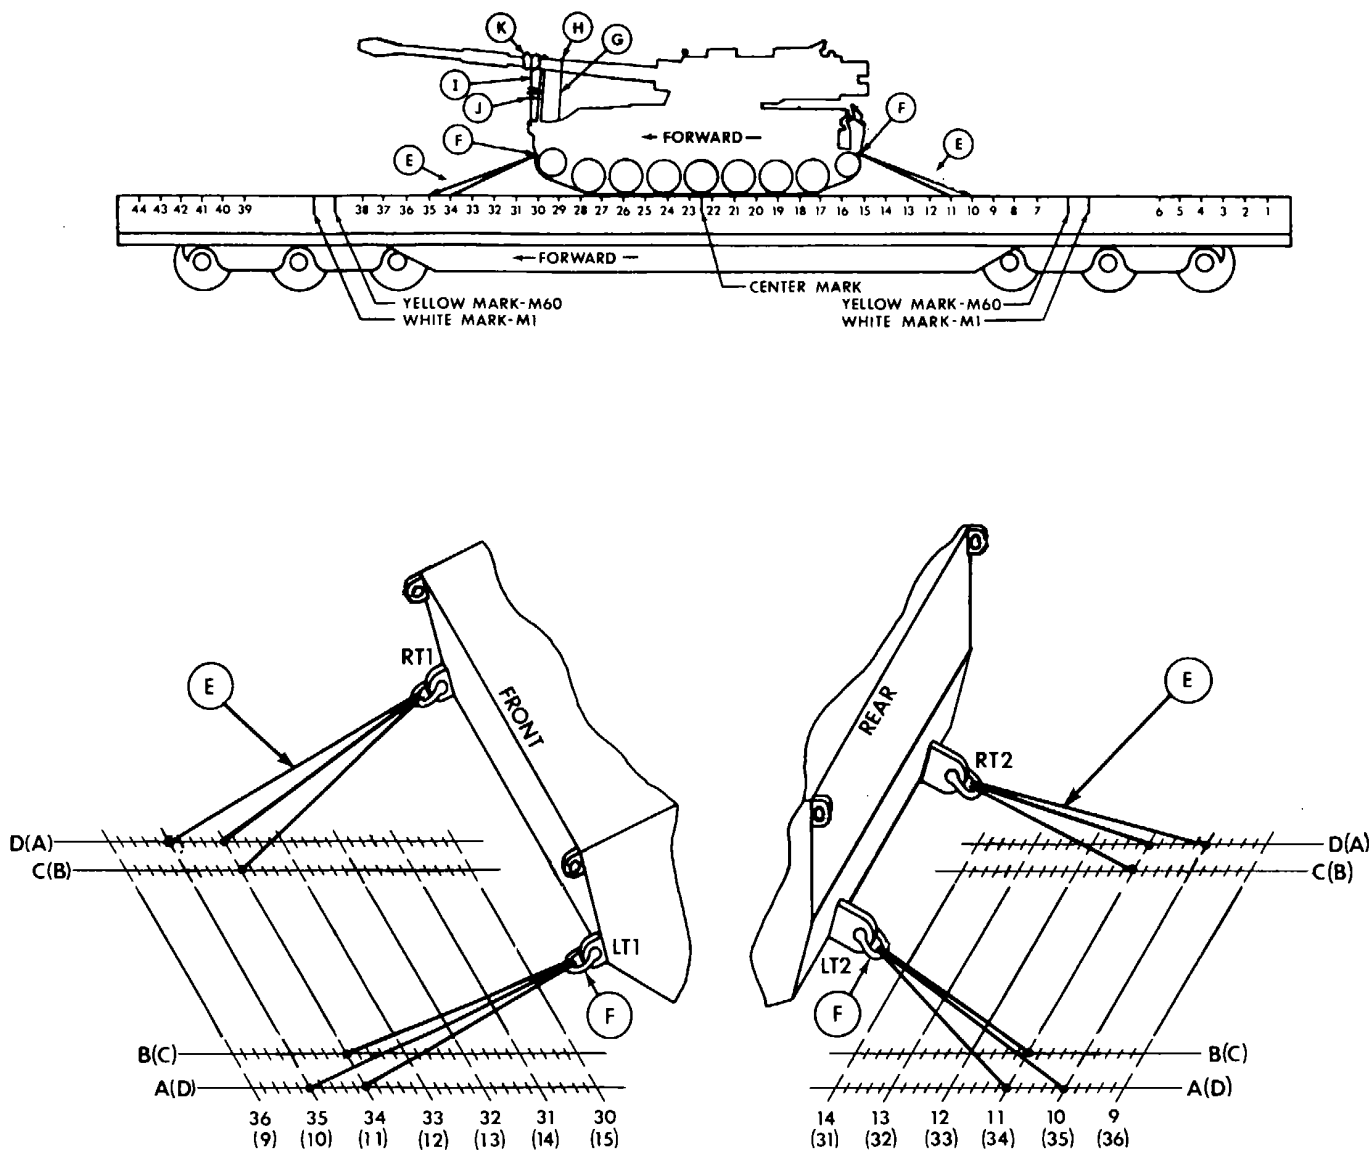

Figure 7-1. Chain tiedown arrangement for one MO19 self-propelled howitzer.
b. Two M109 howitzers can be loaded onto the flatcar by being driven or lifted onto the car. Both howitzers must be centered over the centerline of the car so that the track overhang is about equal on both sides. Both howitzers must be facing the same direction and secured as shown in figure 7-2. The front of the M109 must be positioned so that the center of the front roadwheel is lined up with the yellow mark nearest position No. 44. The other M109 must be positioned so that the center of the TM 55-2220-058-14 rear roadwheel is lined up with the yellow mark at the other end of the car. The application of materials and chain tiedowns for two M109 howitzers is explained in table 7-3. If one or two M109 howitzers are loaded facing the opposite direction from that shown in figures 7-1 and 7-2, the chain tiedowns for one M109 howitzer will be applied as explained in table 7-4; or, for two howitzers, table 7-5.
Table 7-2. Application of Materials for Securing One M109 Self-Propelled Howitzer (Fig 7-1)
Table 7-4. Application of Materials for Securing One M109 Howitzer Facing the Opposite Direction from that Shown in Figure 7-1
(For location of "items," refer to fig 7-1)
(For location of "items, " refer to fig 7-1)Continued
(For location of "items, " refer to fig 7-1)